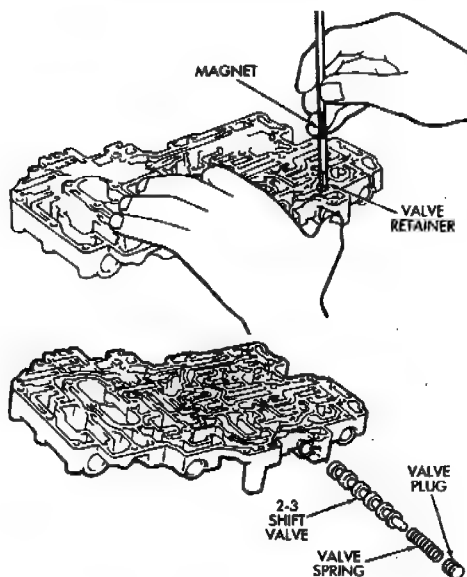

**Fig. 10 Removing/Installing Secondary Pressure Regulator Valve**
(6) Install secondary regulator valve spring, valve and plug in valve bore. Press plug inward and install retainer (Fig. 10).